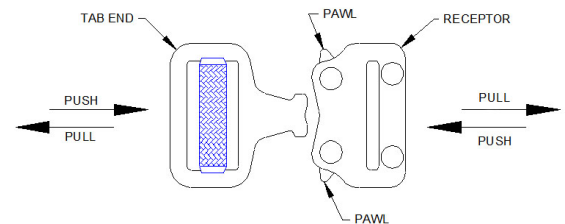

FIGURE 2
- 8) Adhere the hook fastener from the excess leg strap to the corresponding loop fastener on the leg strap attached to the pad (FIGURE 2)